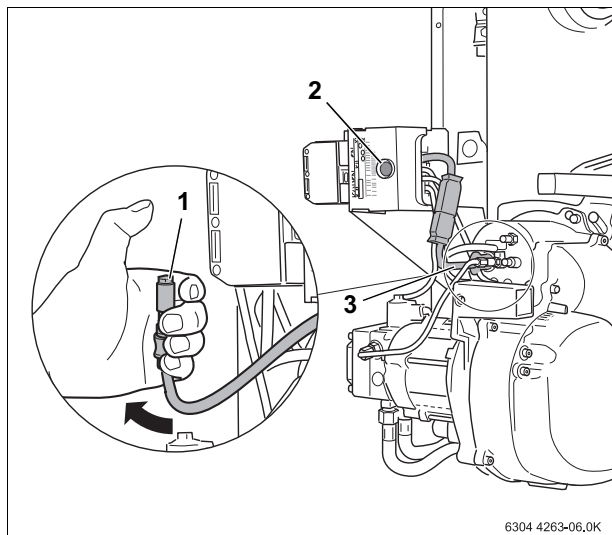

Fig. 30 Checking function of flame sensor
- While the burner is running, pull the flame sensor out by the handle (Fig. 30, **Item 3**).
- Point the flame sensor towards the light (Fig. 30, **Item 1**). It must shut off immediately and lock out after restarting.
- After waiting for approx. 30 seconds, reset the burner controller by pressing the reset button (Fig. 30, **Item 2**).